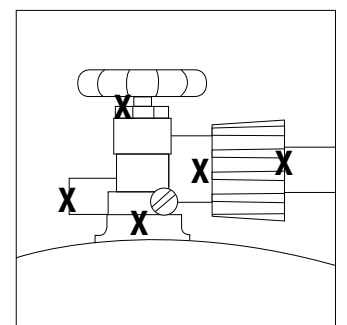

Figure 5
- If igniter does not light burner, use a lit match secured with the lighting rod (included with grill) to light burners. Access the burners through the cooking grid and heat plates. Position lit match near side of burner (Figure 5).